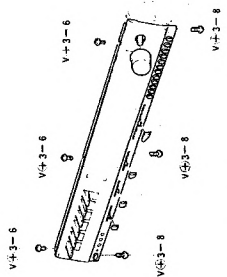

Fig. 7
2. Remove 6 screws. (Refer to Fig. 7)